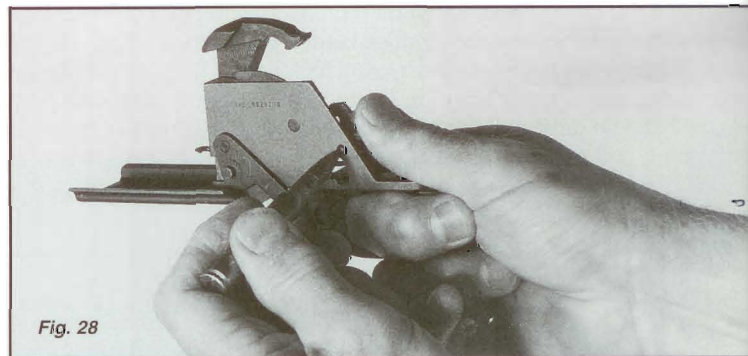
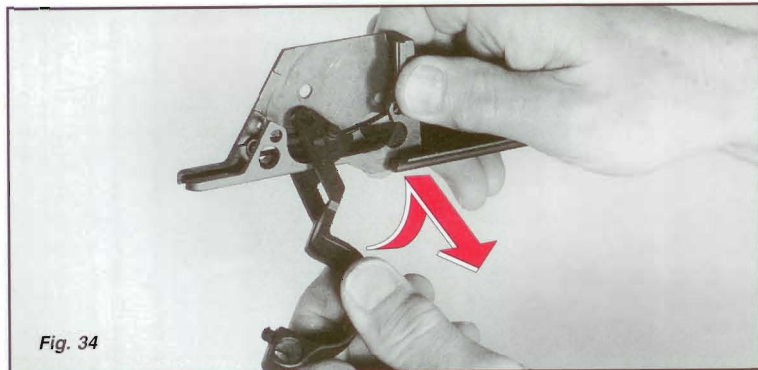
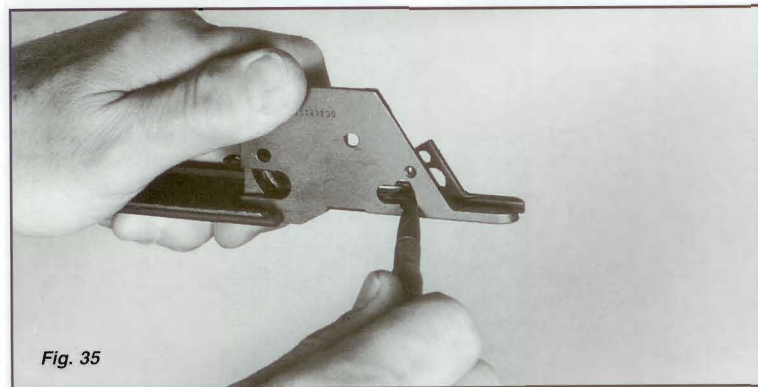

Fig. 28
Fig. 34
Fig. 35
Push the trigger pin from the left until its head is unseated (Fig. 28). Apply pincer pressure with your right hand (Fig. 29) to slightly compress the hammer spring and pull out the trigger pin (A). Slowly release pressure and remove the trigger assembly, hammer spring housing, hammer spring and hammer spring plunger (Fig. 30). Do not remove sear from the trigger assembly unnecessarily. Push out the hammer pin from the left (Fig. 31) and remove the hammer (Fig. 32). Press the upper arm of the safety away from the trigger housing wall (Fig. 33) to unseat the safety pivot stud from its hole (B), and remove the safety. Slide the trigger guard rearward until its wings are aligned with the safety stud hole. Tilt the right wing inward (Fig. 34) until the trigger guard can be removed diagonally. Unseat the clip ejector spring by pushing through access hole with a cartridge (Fig. 35).